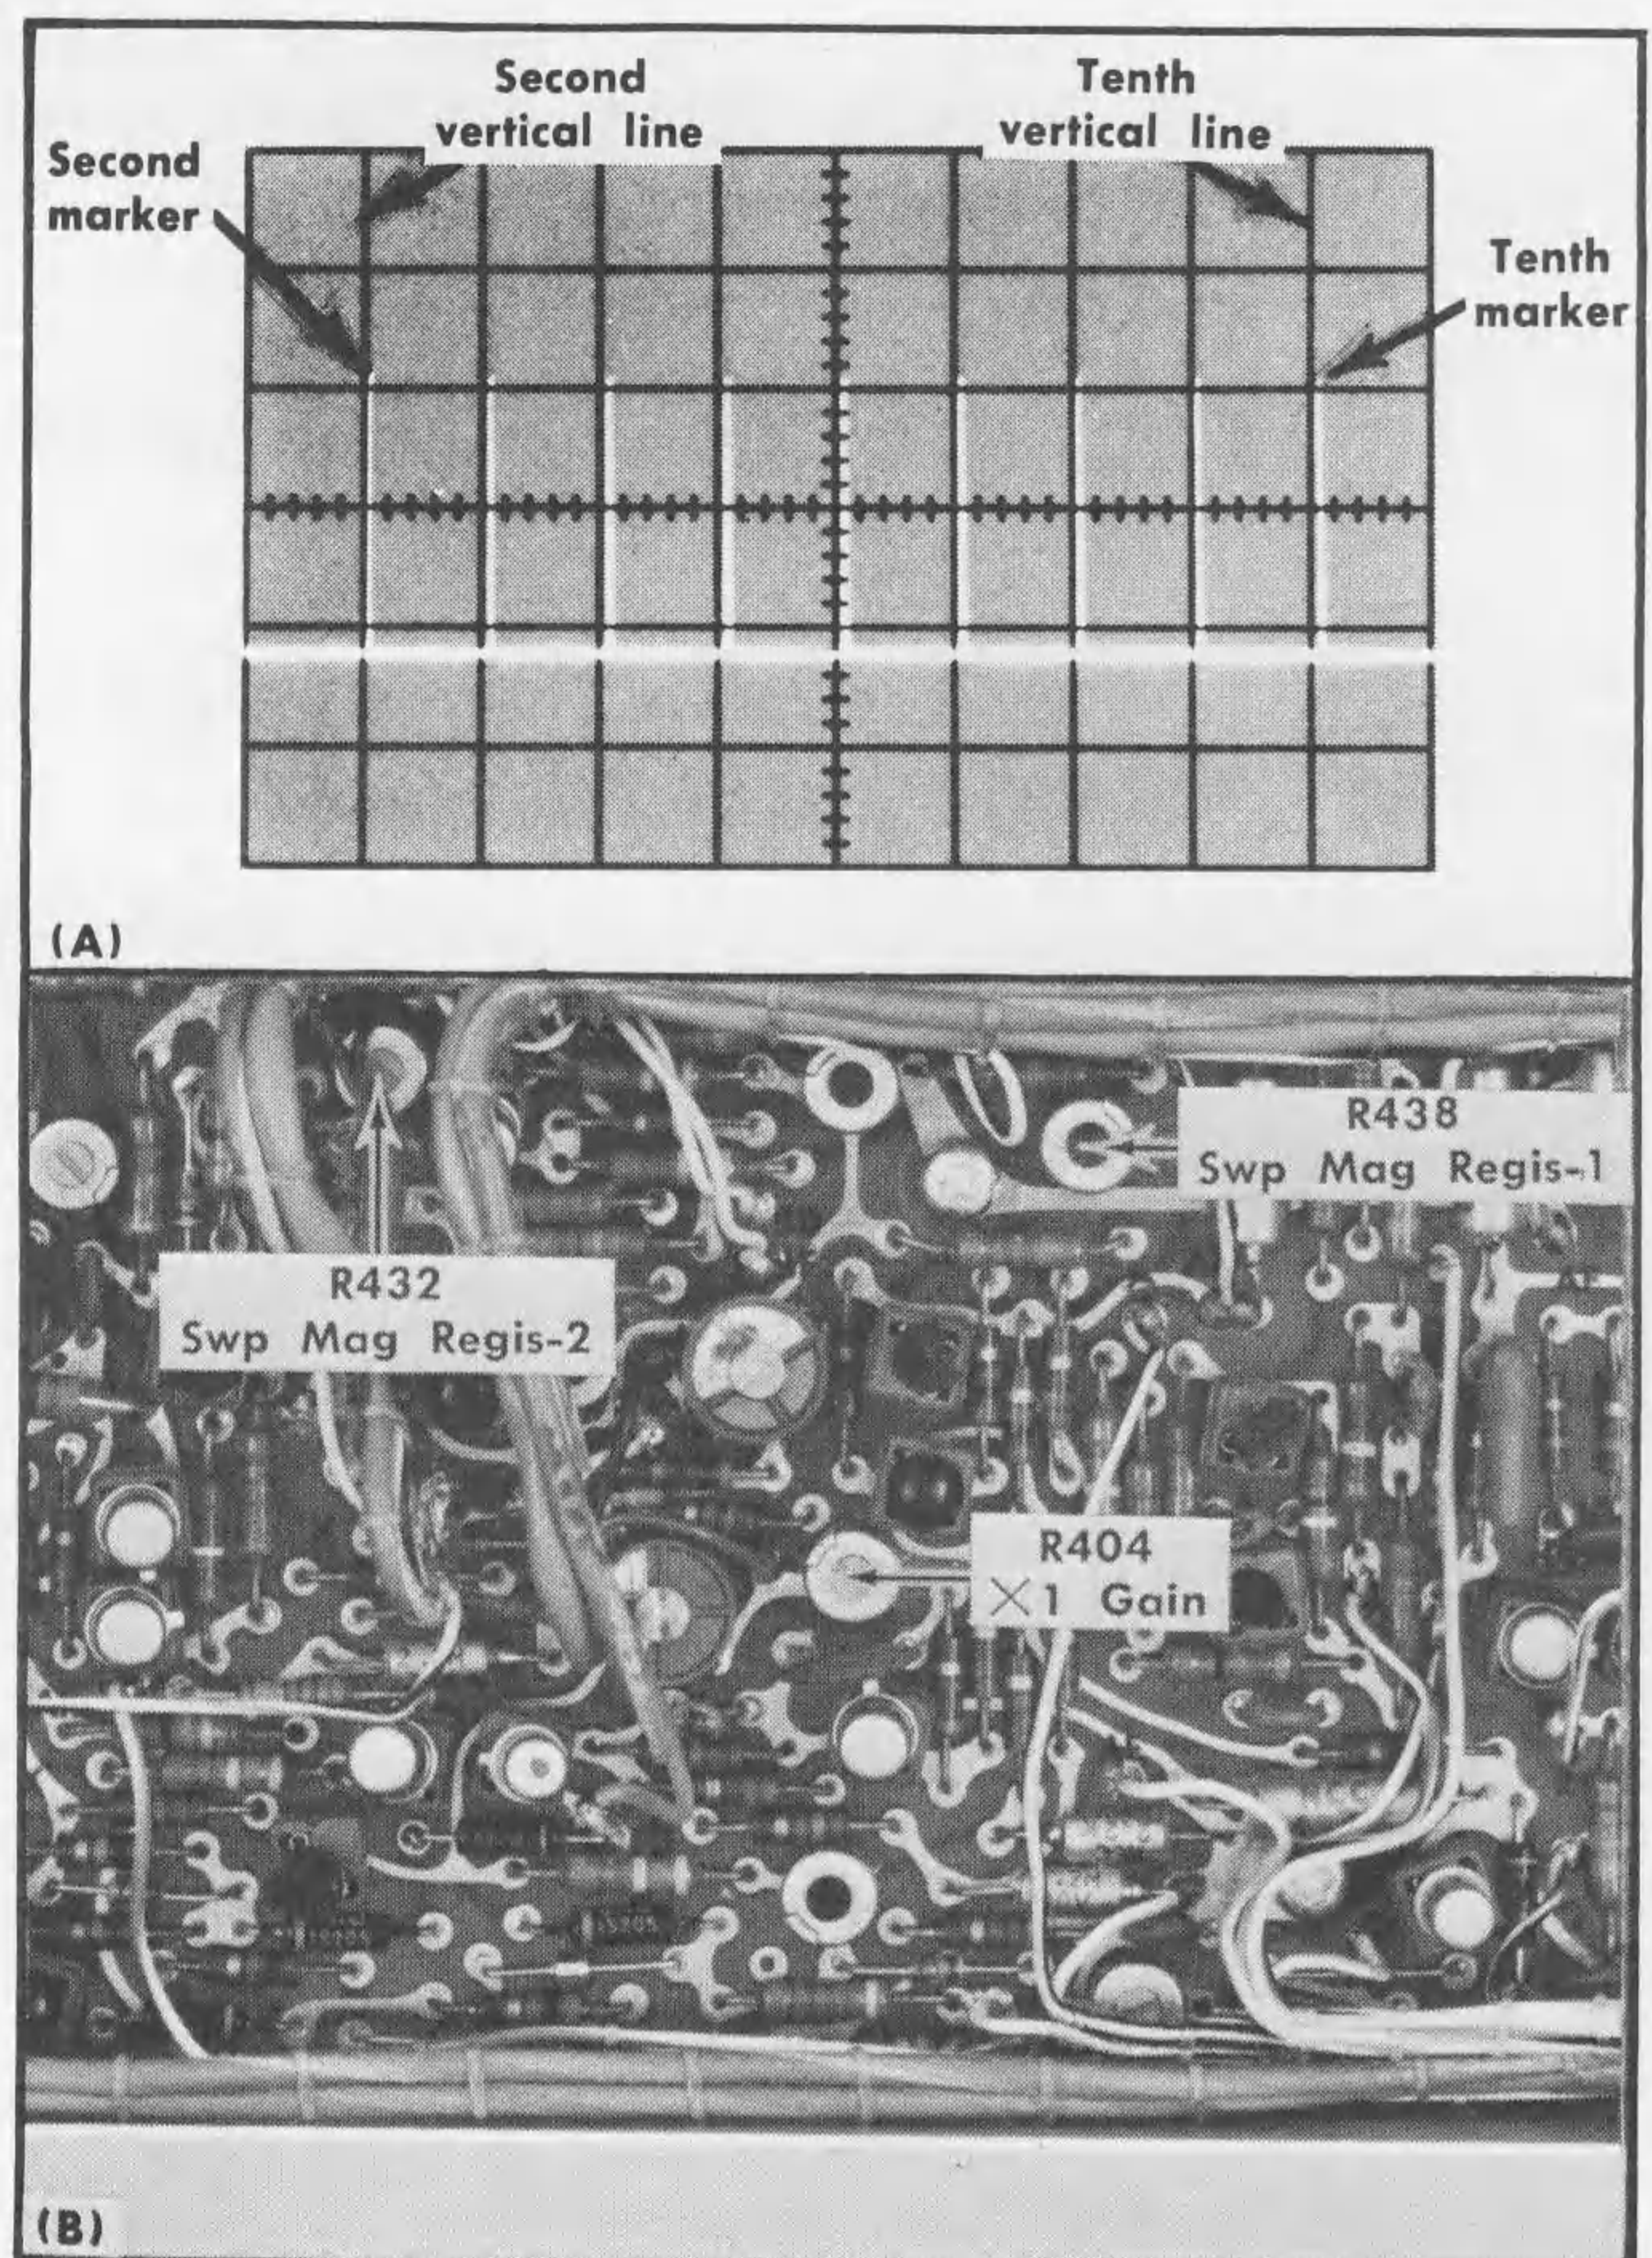

Fig. 5-11. (A) Typical CRT display showing correct normal timing, (B) Location of magnifier registration and normal sweep timing adjustments (Horizontal board).
h. ADJUST—Swp Mag Regis-1 adjustment, R438 (see Fig. 5-11), to position the middle marker to the center vertical line.
m. ADJUST—Swp Mag Regis-2, R432 (see Fig. 5-11) to position the first marker to the center vertical line.